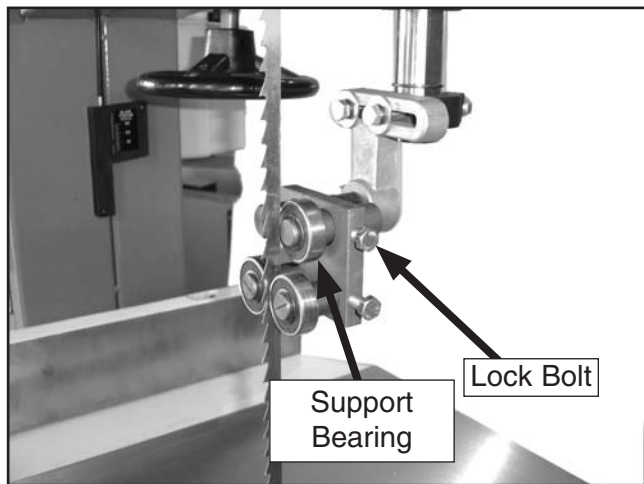

Figure 29. Upper support bearing controls.
3. Familiarize yourself with the upper support bearing controls shown in **Figure 29**.
4. Loosen the lock bolt on the support bearing shaft (**Figure 29**).